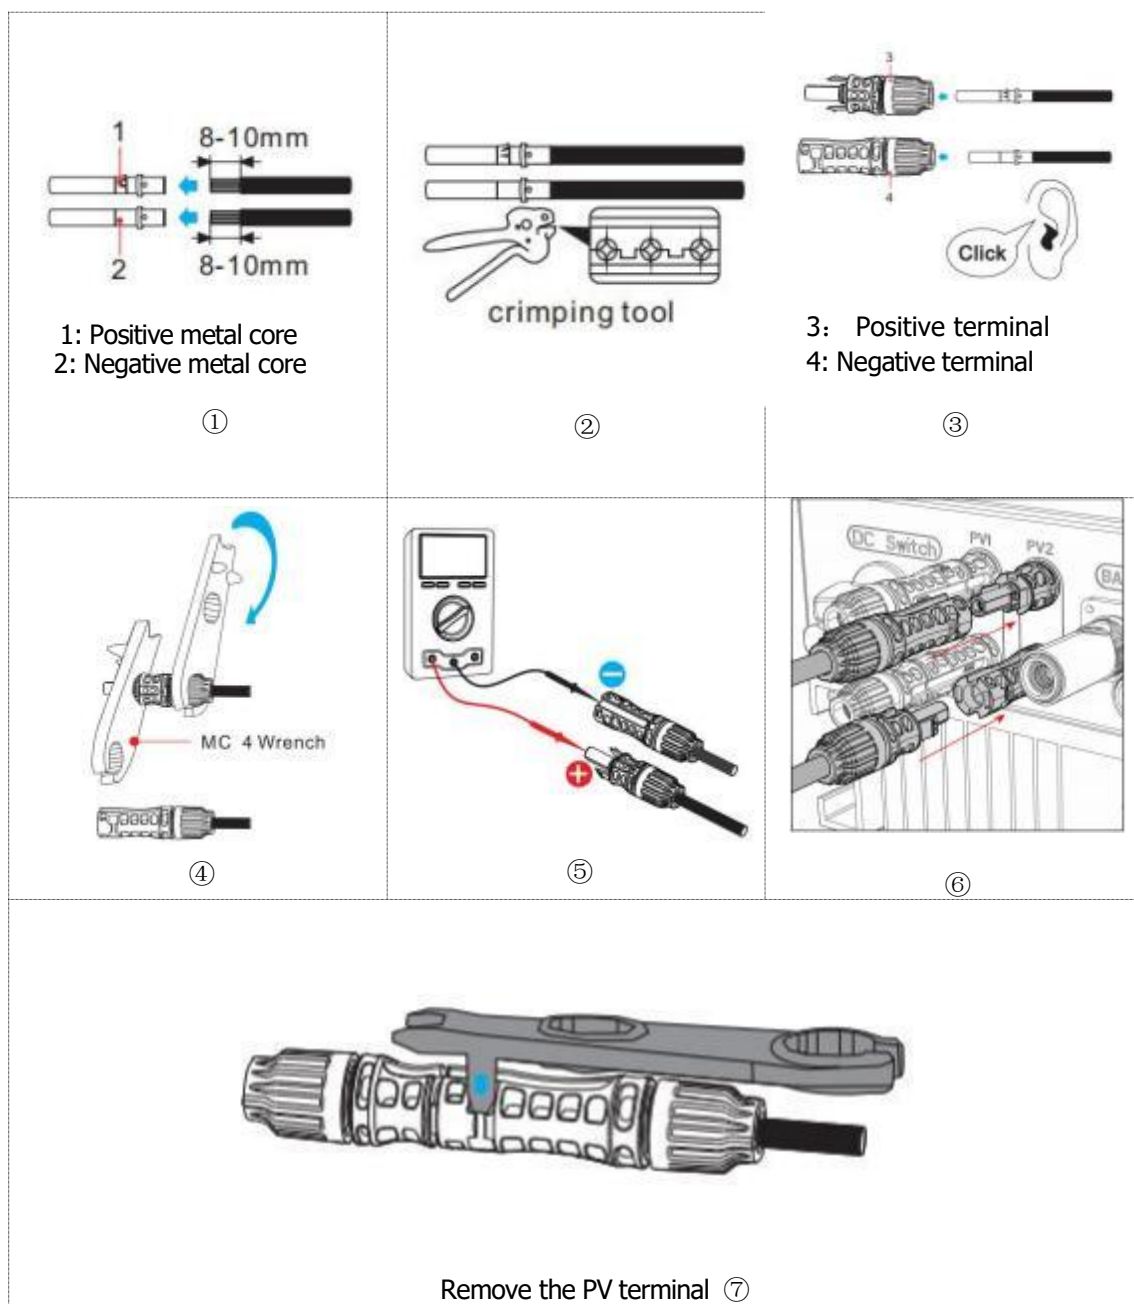

Figure 10: Connection of PV cable
- Step 2: Strip the insulation layer of an appropriate length of the positive and negative cables with the wire stripper, and the specific stripping length is shown in Figure 10 ①;
If it is necessary to remove the positive and negative PV connectors from the inverter, the operator may insert a dismantling spanner to the fixing slot as shown in the figure, and press it with force, to carefully remove the DC connector, as shown in Figure 10 ⑦.